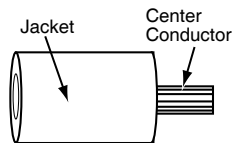

Fig. 3
5. Rotate strip tool clockwise with forward pressure until tool turns easily. This indicates that the first cut is completed, and the center conductor is exposed. (Fig. 3)